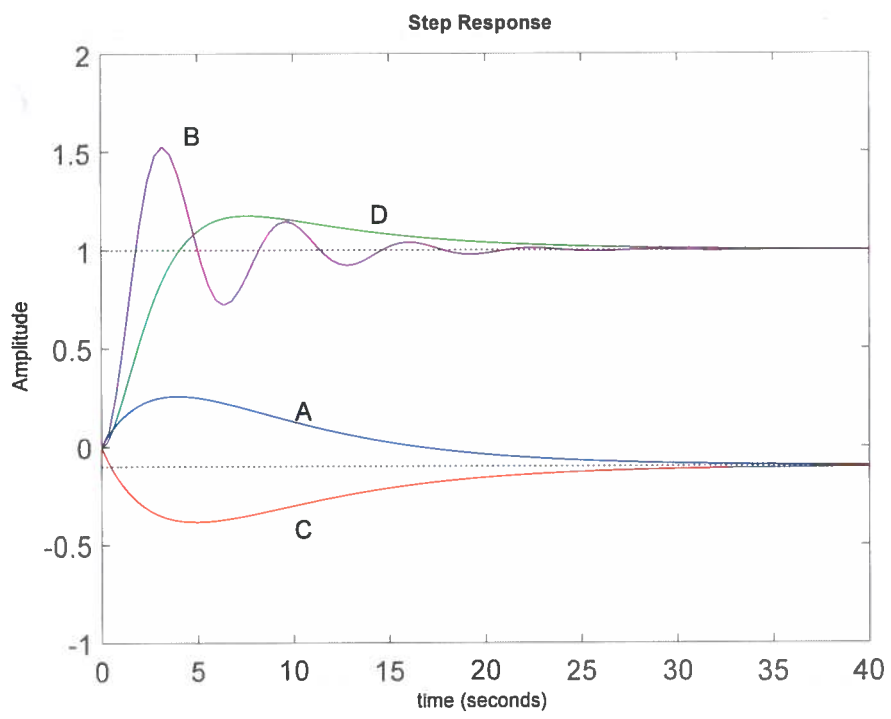

Figure 5: Step response of $g_i(s)$
7. (20 points) Figure 5 depicts the responses of the following transfer functions to a step input:
- As conclusion, identify the step responses in Figure 5 (A,B,C, or D).